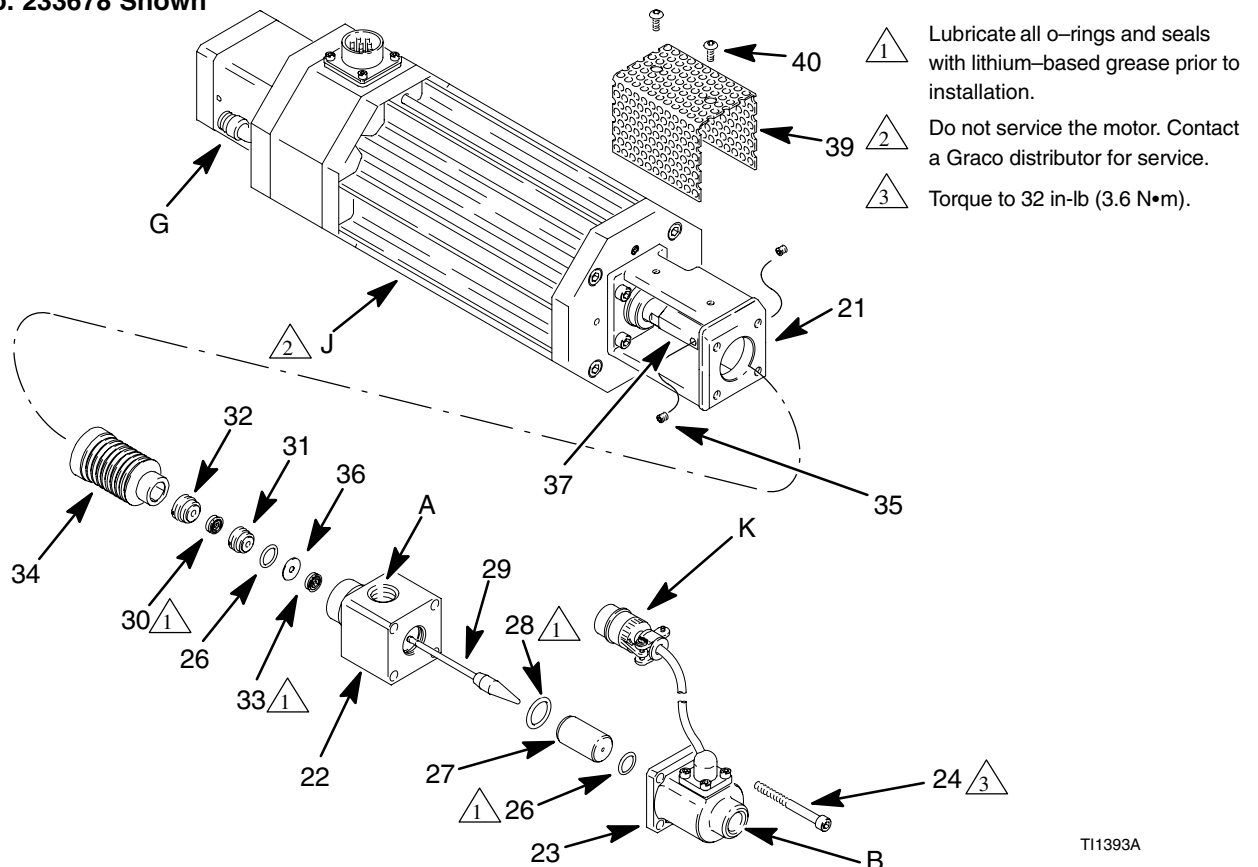

Fig. 3
3. Disconnect the fluid lines from the metering valve fluid inlet (A) and outlet (B). See Fig. 3.
4. Disconnect the closer air line from the closer air inlet (G).
6. Connect a compressed air supply to the closer air inlet (G). Actuate the cylinder with approximately 50 psi (0.35 MPa, 3.5 bar) air pressure to retract the closer rod and keep the closer springs compressed.